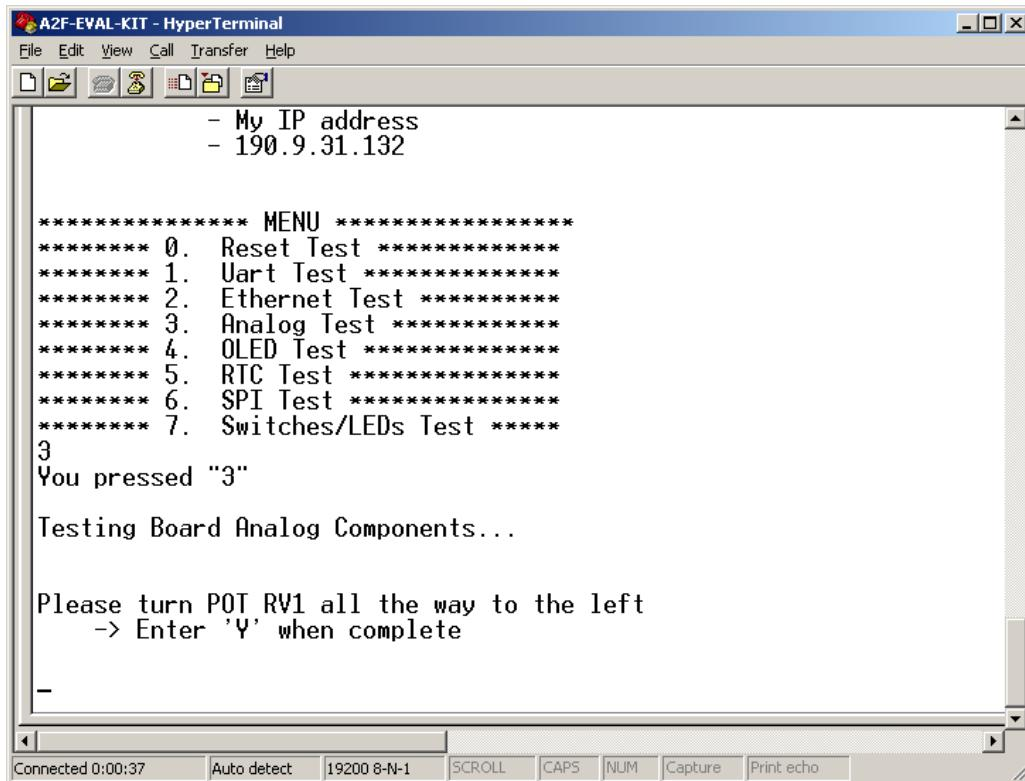

Figure 7-18 • Analog Test
1. Enter 3 into the terminal to begin the Analog test. The screen shown in Figure 7-18 should appear.